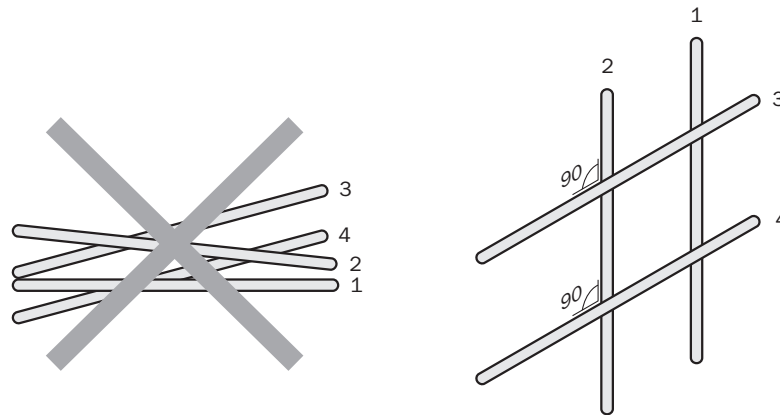

Figure 3: Cross cables at right angles
- ▷ Cables in groups 1, 2 and 3, 4 must be crossed at right angles, see figure 3.